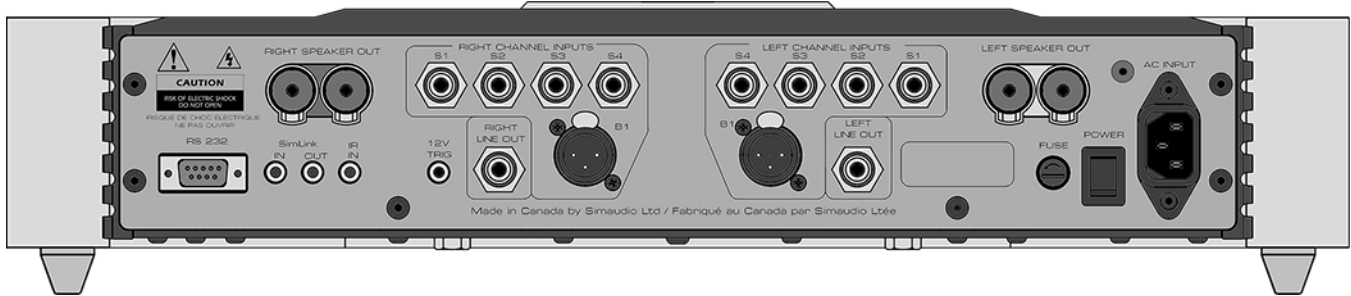

Figure 2: Rear panel of MOON 600i Integrated Amplifier
The rear panel of the **MOON 600i** dual-mono integrated amplifier will look similar to Figure 2 (above). There are two rows of connectors; the upper row contains one pair of heavy duty gold-plated speaker binding posts for each channel to connect to your loudspeakers. In between these binding posts are four (4) pairs of single-ended RCA inputs labeled S1, S2, S3, and S4. This layout is the result of **600i's** dual-mono design, the left channel inputs/outputs are grouped together on one side and the right channel inputs/outputs are grouped together on the opposite side.